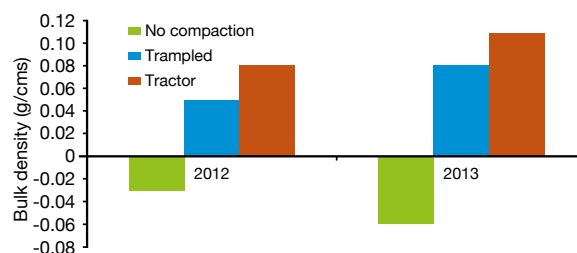

Figure 65. Impact of compaction on change in soil bulk density (0–10cm) from pre-treatment reference conditions in October 2011
- Compaction resulted in an increase in soil bulk density reducing pore spaces for air (Figure 65)